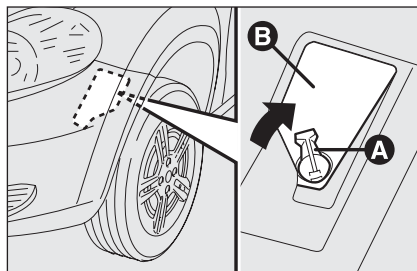

fig. 14
- turn the catch **A**-fig. 14 as shown by the arrow, then use the lid **B**;
- close the lid **B**-fig. 14 the turn the catch **A**.